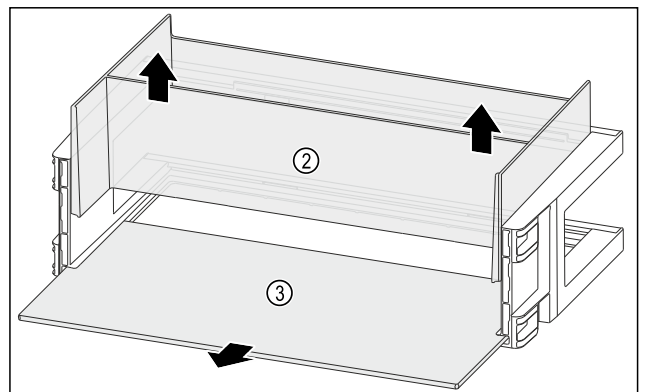

Fig. 142
- Remove the organiser *Fig. 142 (2)* upwards.
- Remove the shelf *Fig. 142 (3)*.